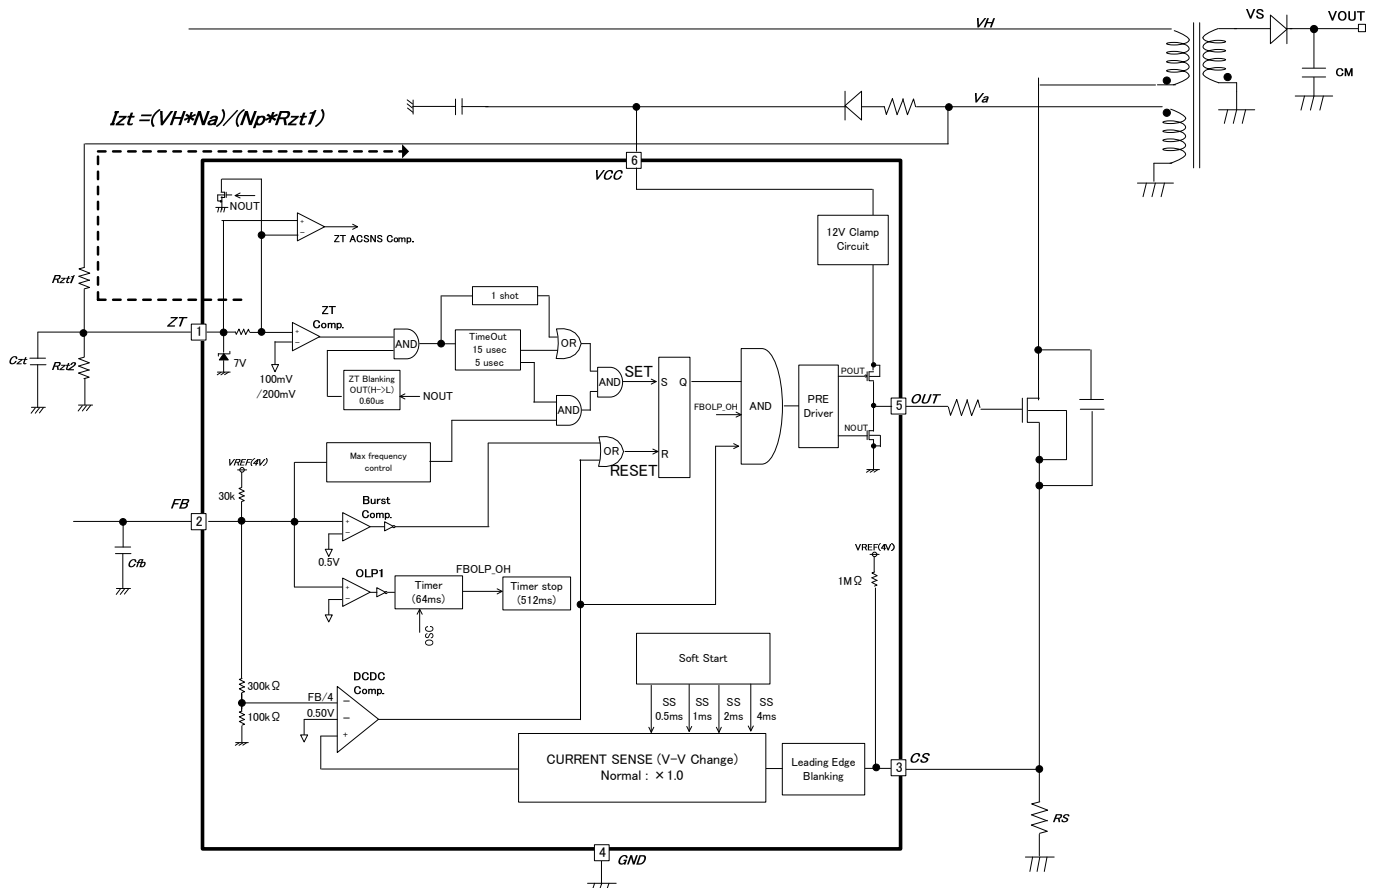
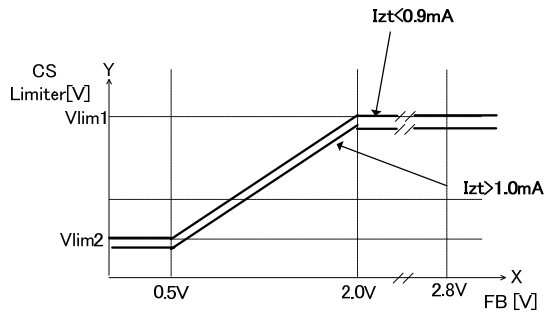

Figure 18. CS over Current Detection Switched ZT current block diagram
Figure 19. FB pin Voltage vs. CS pin Voltage Characteristics
If the input voltage (VH) becomes higher, the slope of L current raises. The switching has a constant delay time, so the maximum allowable power increases for a constant over current limiter depending AC voltage. For this countermeasure, this IC switches the internal over current protection function monitoring the input voltage. In case of high voltage (AC230V), it is needed to set the over current comparator to normal 0.7 times. The IC detects by monitoring the ZT inflow current and switching. When the MOSFET is turns ON, Va becomes minus voltage depending on the input voltage (VH). The ZT pin (1pin) cramps near 0V internal the IC. The way to determine Rzt1, Rzt2 and Czt is below. The block diagram is shown in Figure 18. The graph is also shown in Figure 19 and 20.